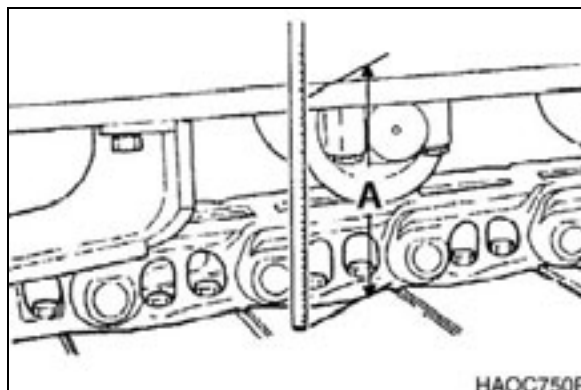

Figure 97
2. Measuring the distance (A, Figure 97) between the bottom of the side frame and the top of the lowest crawler shoe. Recommended tension for operation over most types of terrain is 320 - 340 mm (12.6 - 13.4 in)